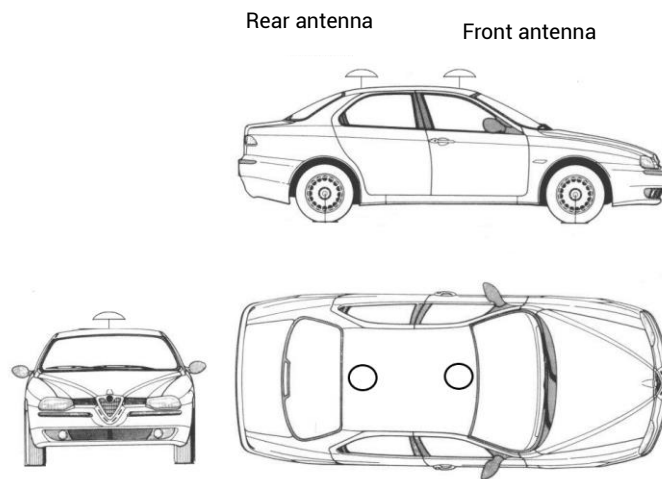

Figure 4-2 CLAP-B7 Antenna Installation Schema
1. First, mount the CLAP-B7 and two measurement antennas on the carrier as shown in Figure 4-2. In order to maximize positioning and attitude accuracy, and minimize the risk of damage, the antenna should be firmly mounted on a stable structure that will not sway or collapse. Choose a position as broad as possible so that each satellite above the horizon can be tracked without being obstructed. At the same time, the antenna should be installed at a position with less multipath interference.